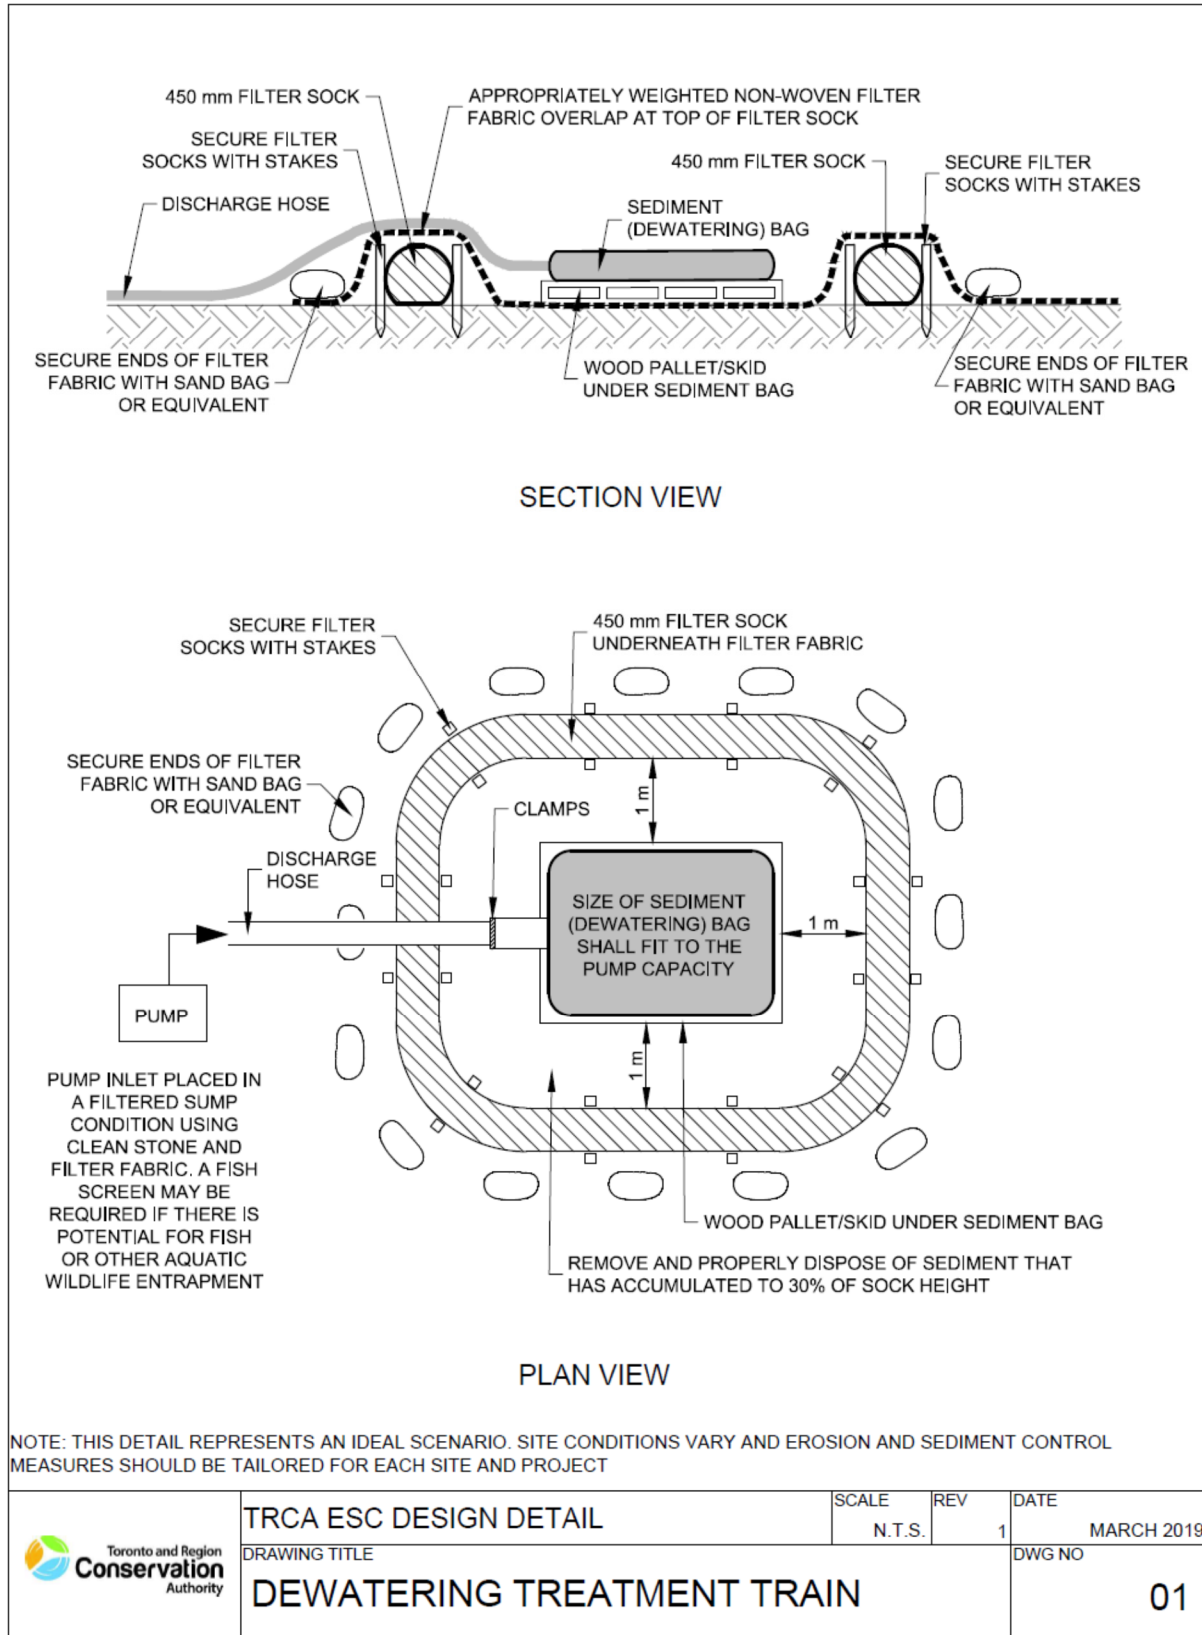

Figure B2-16: Dewatering bag treatment train (unfrozen conditions)
- As part of a **treatment train** or **multi-barrier approach** to dewatering through a sediment bag, install a sediment control barrier such as a filter sock around the bag in order to provide more opportunity for sediment settling. See dewatering treatment train shown in Figures B2-16 and B2-17.